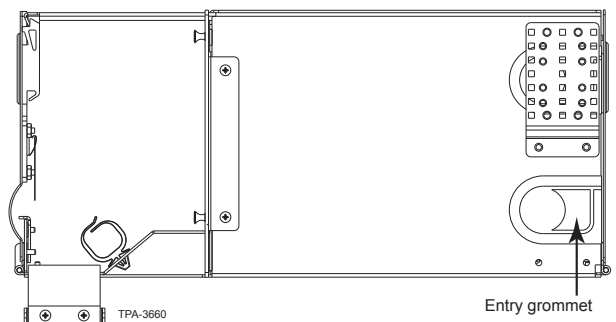

Figure 5
- Step 3:** Puncture or peel away the center section of the grommet (Figure 5).